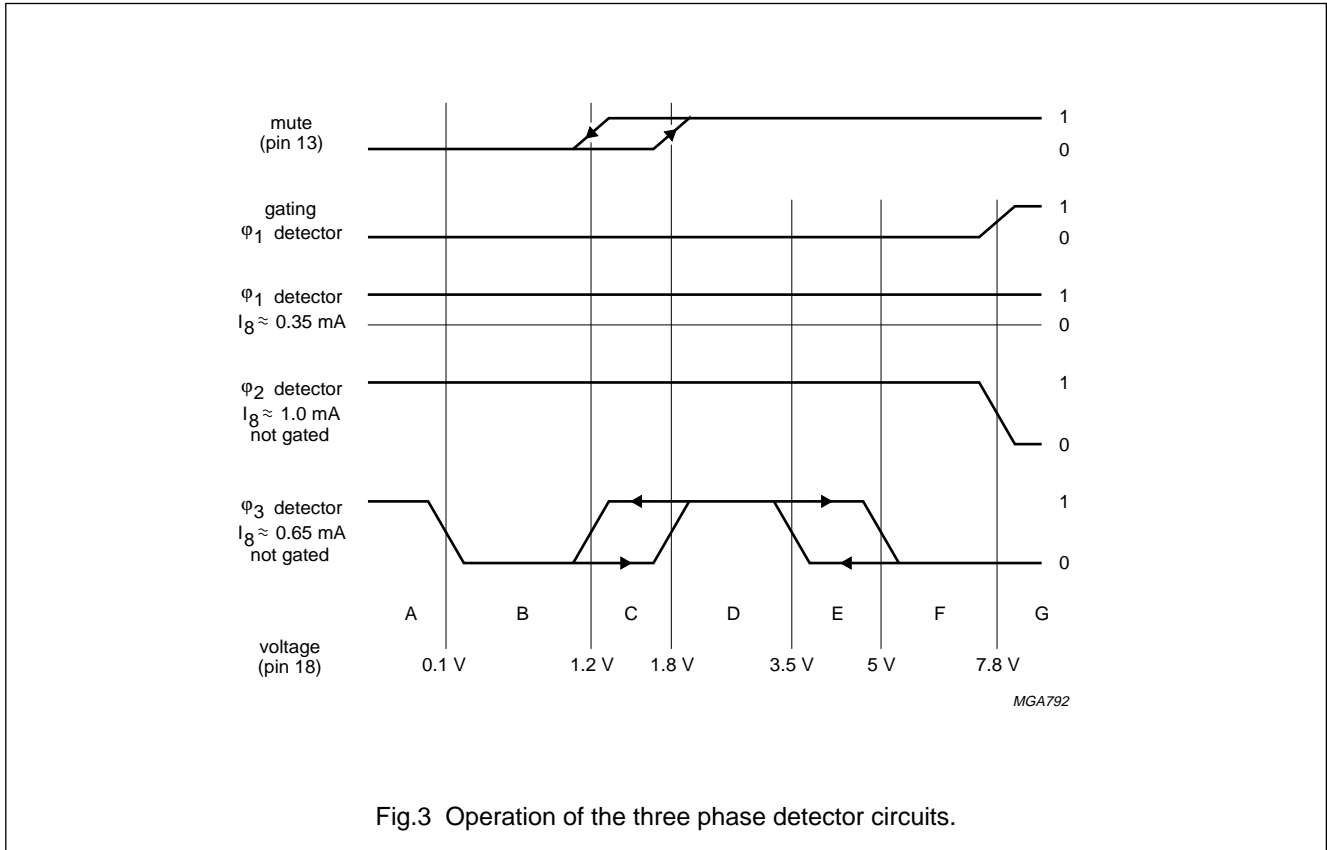

Fig.3 Operation of the three phase detector circuits.
### PHASE DETECTOR (SEE FIG.3)
**Explanation of areas A to G shown in Fig.3**